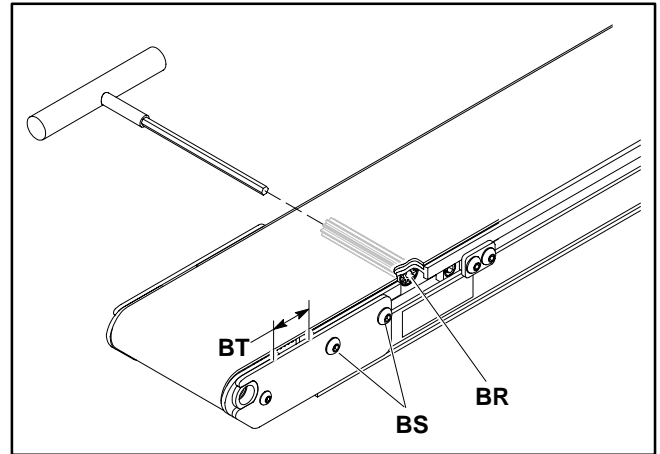

Figure 30
9. Insert a 5 mm hex key wrench into either end of the pinion gear (BR of Figure 30). Rotate the pinion gear